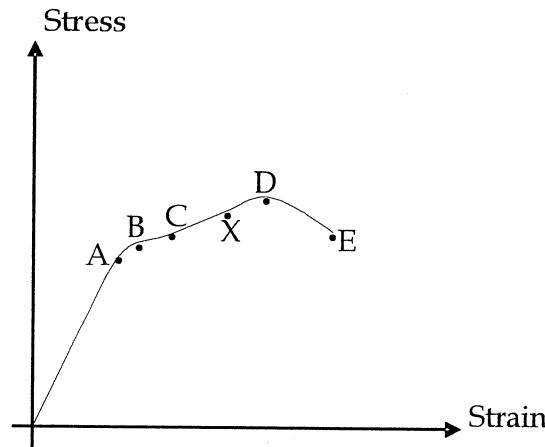

Figure 2(b)
- (b) A stress - strain graph for a certain metal wire, up to its breaking point is shown in figure 2(b).